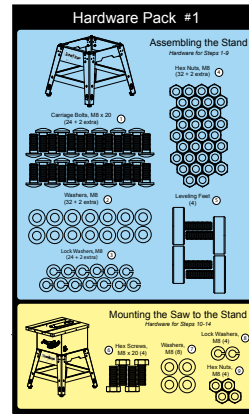

Fig. 1
1. Locate the stand components labeled A through F and hardware pack #1 (see Fig. 1). All of the hardware needed to assemble the stand is located in the area with the blue background on hardware pack #1. In order to easily identify the hardware used in each of the following steps, the different pieces of hardware are numbered on the hardware pack and in the figures.